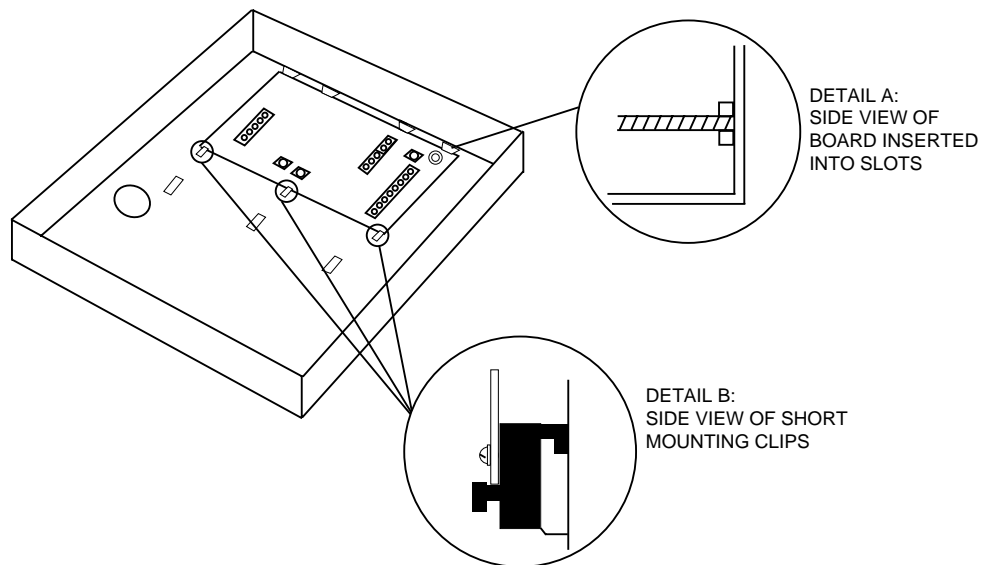

Figure 4-3. Mounting the PC Board
2. Insert the top of the circuit board into the slots at the top of the cabinet. Make certain that the board rests in the slots as indicated (see *Figure 4-3*).